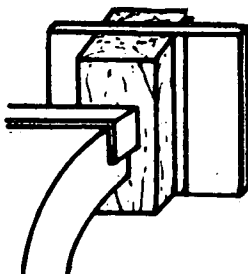

Fig. 4
2. When sawing thin stocks, use bits of wood, squared sections and other aids to hold them (Figs. 4 and 5).